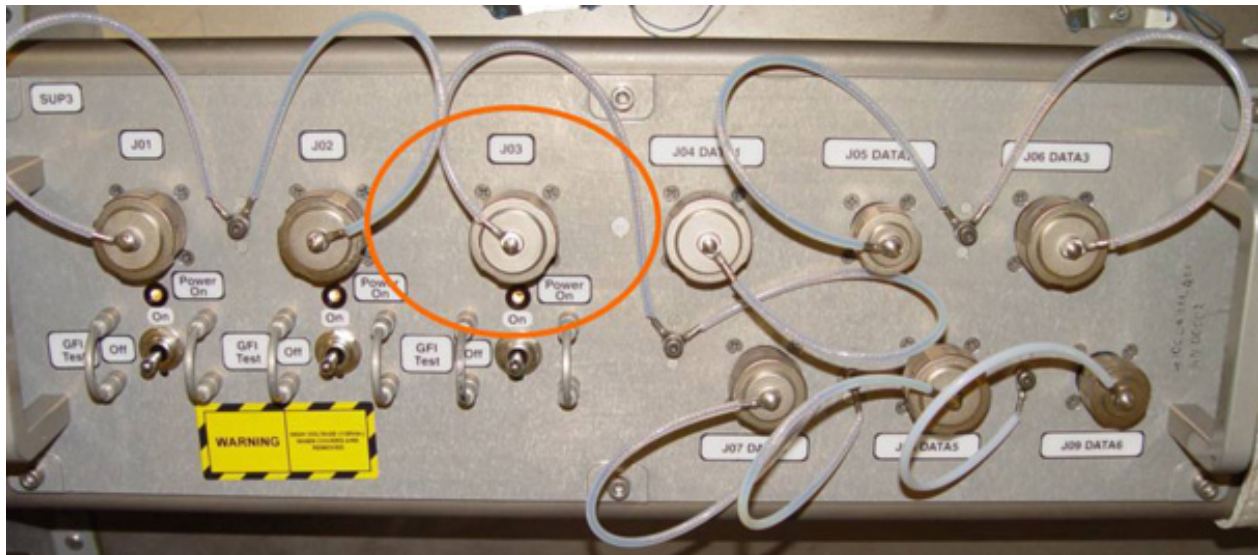

Figure 2. SUP Panel, J03 port circled
- 3.2 120VDC Pwr/Ethernet Cable →|← SUP 2 J03 (reference Figure 2)